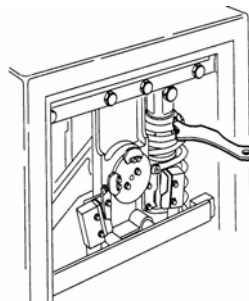

Figure 10. Adjuster Nut
If the beam drifts toward the closed position, turn the adjuster nut (shown in Fig. 10) clockwise to tighten the compression spring.
If the beam drifts toward the opened position, turn the adjuster nut (shown in Fig. 10) counterclockwise to loosen the compression spring.
**NOTE:** The spanner wrench shown in figure 10 is NOT sold by FAAC or needed to make this adjustment.